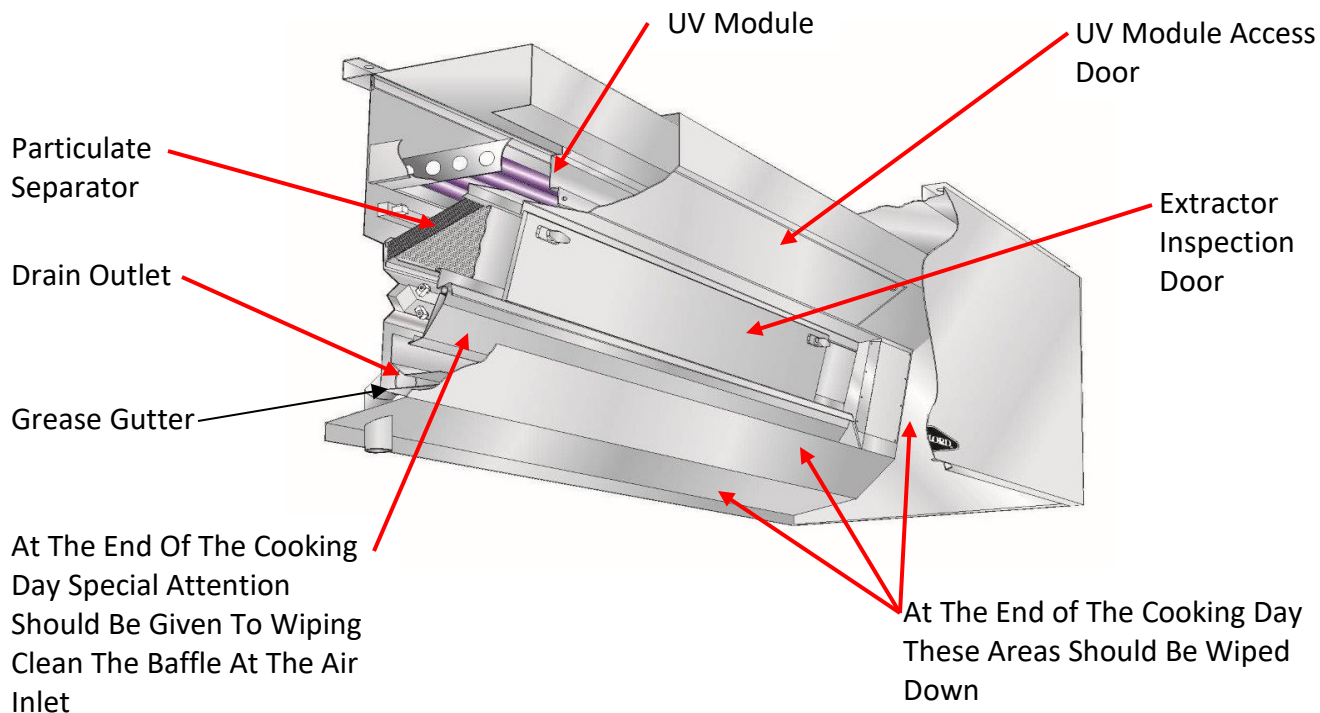

Figure 4-2-1
2. For general cleanliness the underside of the Ventilator should be wiped down as shown in Figure 4-2-1.